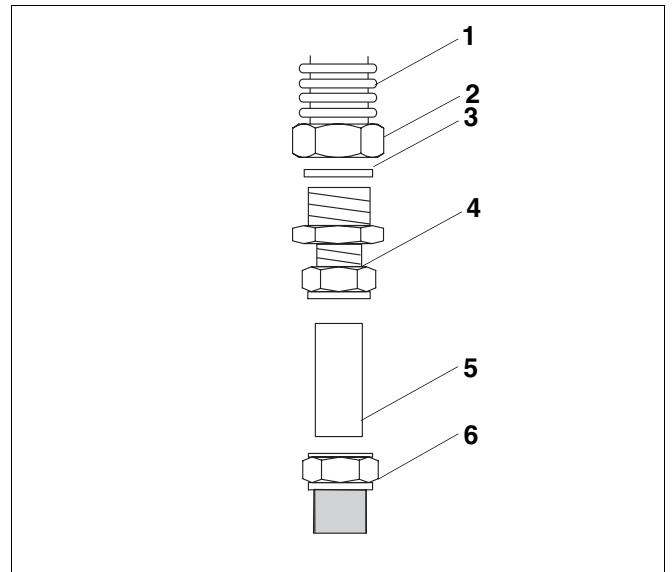

Fig. 7 Twin Tube DN 20 connection to 22 mm compression fitting
- Insert the gasket (Fig. 7, **item 3**) into the pre-assembled union nut Rp1 (Fig. 7, **item 2**).
- Connect the straight compression fitting R1 × 22 mm (Fig. 7, **item 4**) with the pre-assembled union nut Rp1 (Fig. 7, **item 2**) of the corrugated stainless steel hose (Fig. 7, **item 1**).
- Secure the pre-assembled union nut Rp1 (Fig. 7, **item 2**) with the straight compression fitting R1 × 22 mm (Fig. 7, **item 4**) using a suitable spanner.
- Trim the copper pipe Ø 22 mm (Fig. 7, **item 5**) to size to enable the tube to be pushed 2–3 cm into the compression fittings (Fig. 7, **item 4**).
- Push the trimmed copper pipes Ø 22 mm (Fig. 7, **item 5**) right up to the stop end into the compression fittings.